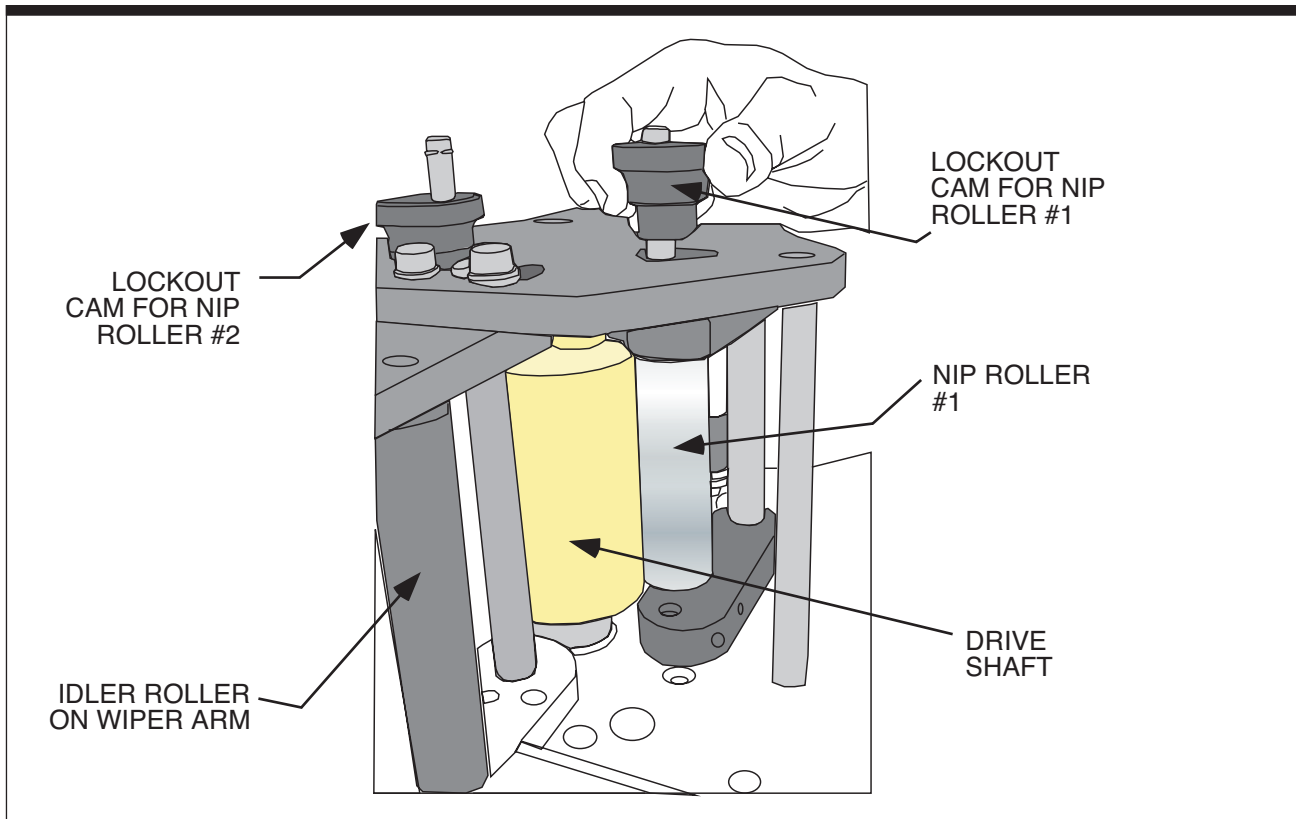

Figure 4-3. Lockout Knobs for Nip Rollers
Step 4. The Nip Roller. To thread the stock between the drive roller and the nip roller, you must first release the tension on the nip rollers. Lift up on the lockout knob on top of the face plate cover (see Figure 4-3) and rotate them 180°. Move each cam outward until the cams' locks drop back down into the slots. This locks the nip rollers away from the drive shaft. Thread the label stock between the nip roller (position #5) and the drive shaft.
- Step 9. Re-engage the Nip Roller Lockout Knobs.** Re-engage the nip roller lockout knobs by turning the knobs 180°, lifting up on the knobs and pulling them center towards the drive shaft (this should be tight, and maintain a firm grip on the knobs). Once the nip rollers are in place, push the knobs down into the openings on the front cover (see Figure 4-3).